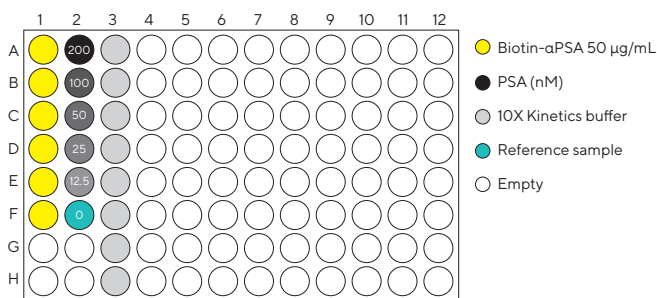

Figure 6: Sample kinetic assay plate setup.
6. Set up a kinetic assay. For details, see the Octet[®] BLI Discovery Software User Guide. Table 5 shows an example kinetic assay consisting of equilibration, ligand loading, baseline, association and dissociation steps. Figure 6 shows an example plate map for a typical kinetic assay.